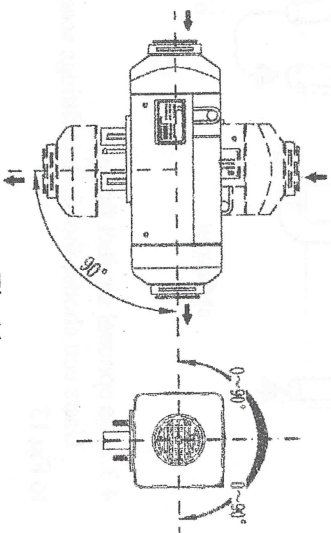

Fig. 11
4.2.5 Direction for installation of the heater is shown in Fig. 11. Attention must be paid to that the inclination angle shall not exceed the limit, or normal operation will be affected.